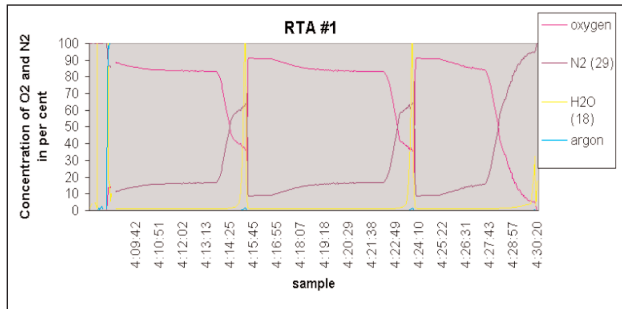

Figure 1: RGA of an RTA chamber
An example of setting up a Rapid Thermal Anneal cluster tool is shown in figure 1. The RGA was used to complement an ongoing troubleshooting effort; RTA tools were qualified using 2 qualification tests: annealing a known doped wafer followed by measurement of the sheet resistance and growing an oxide on a bare Si wafer and measuring the thickness and thickness uniformity. The primary symptom was that this reactor (A) did not match either reactor (B) that was mounted on the same system or the two reactors from another similar tool. Specifically, if temperature adjustments were made to the tool to tune in the sheet resistance, the oxide thickness would not match; if the oxide thickness was adjusted, the sheet resistance would not match.
the oxygen resulting in a thinner oxide than expected for the corresponding temperature, as illustrated in the figure 1.